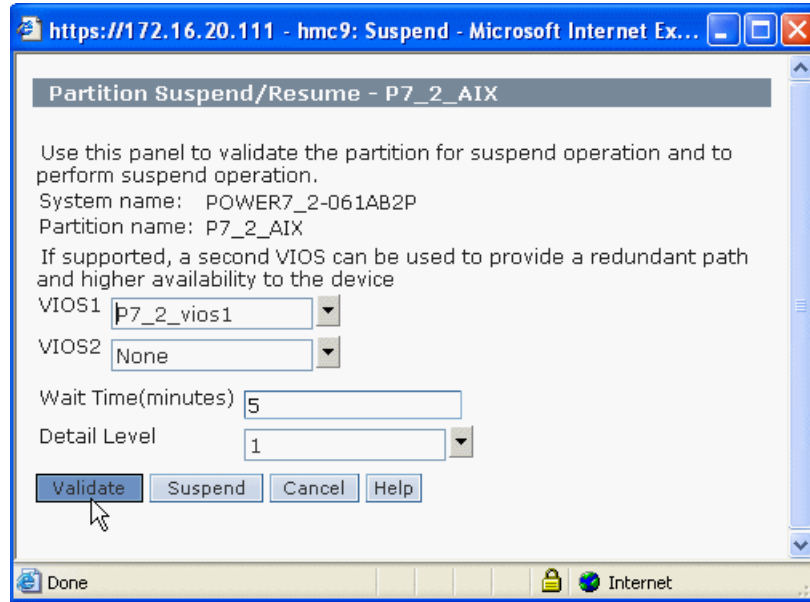

Figure 17-36 Validating resume operation
2. Verify, and modify if necessary, the information provided in the Partition Suspend/Resume window, as shown in Figure 17-36, then click **Validate**.